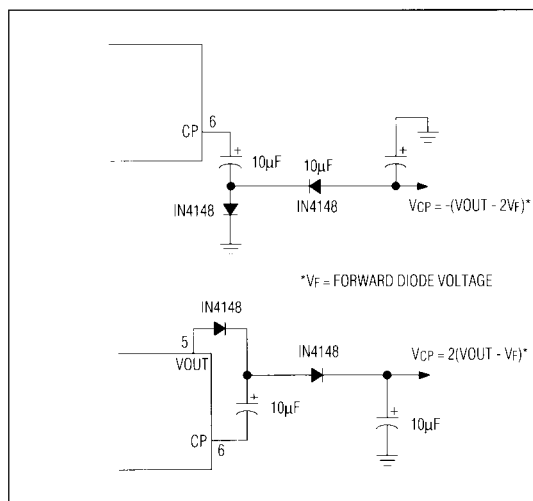

Figure 3. Using the Charge Pump (CP) output as a voltage inverter and/or doubler. Both circuits can be used together.
The Charge Pump (CP) output is a low impedance buffer which swings from ground to VOUT at the oscillator frequency. Two external capacitors and diodes can be connected, as shown in Figure 3, to generate a negative output voltage of $-(V_{OUT} - 1.2V)$ or a positive output of $2(V_{OUT} - 1.2V)$. 1.2V is the forward drop of 2 silicon diodes. Both circuits can be used at once if desired. With 10µF capacitors, the output impedance of V_{CP} is about 30Ω. If space is critical, the capacitors can be reduced, but with a slight increase in output impedance and V_{CP} output ripple.